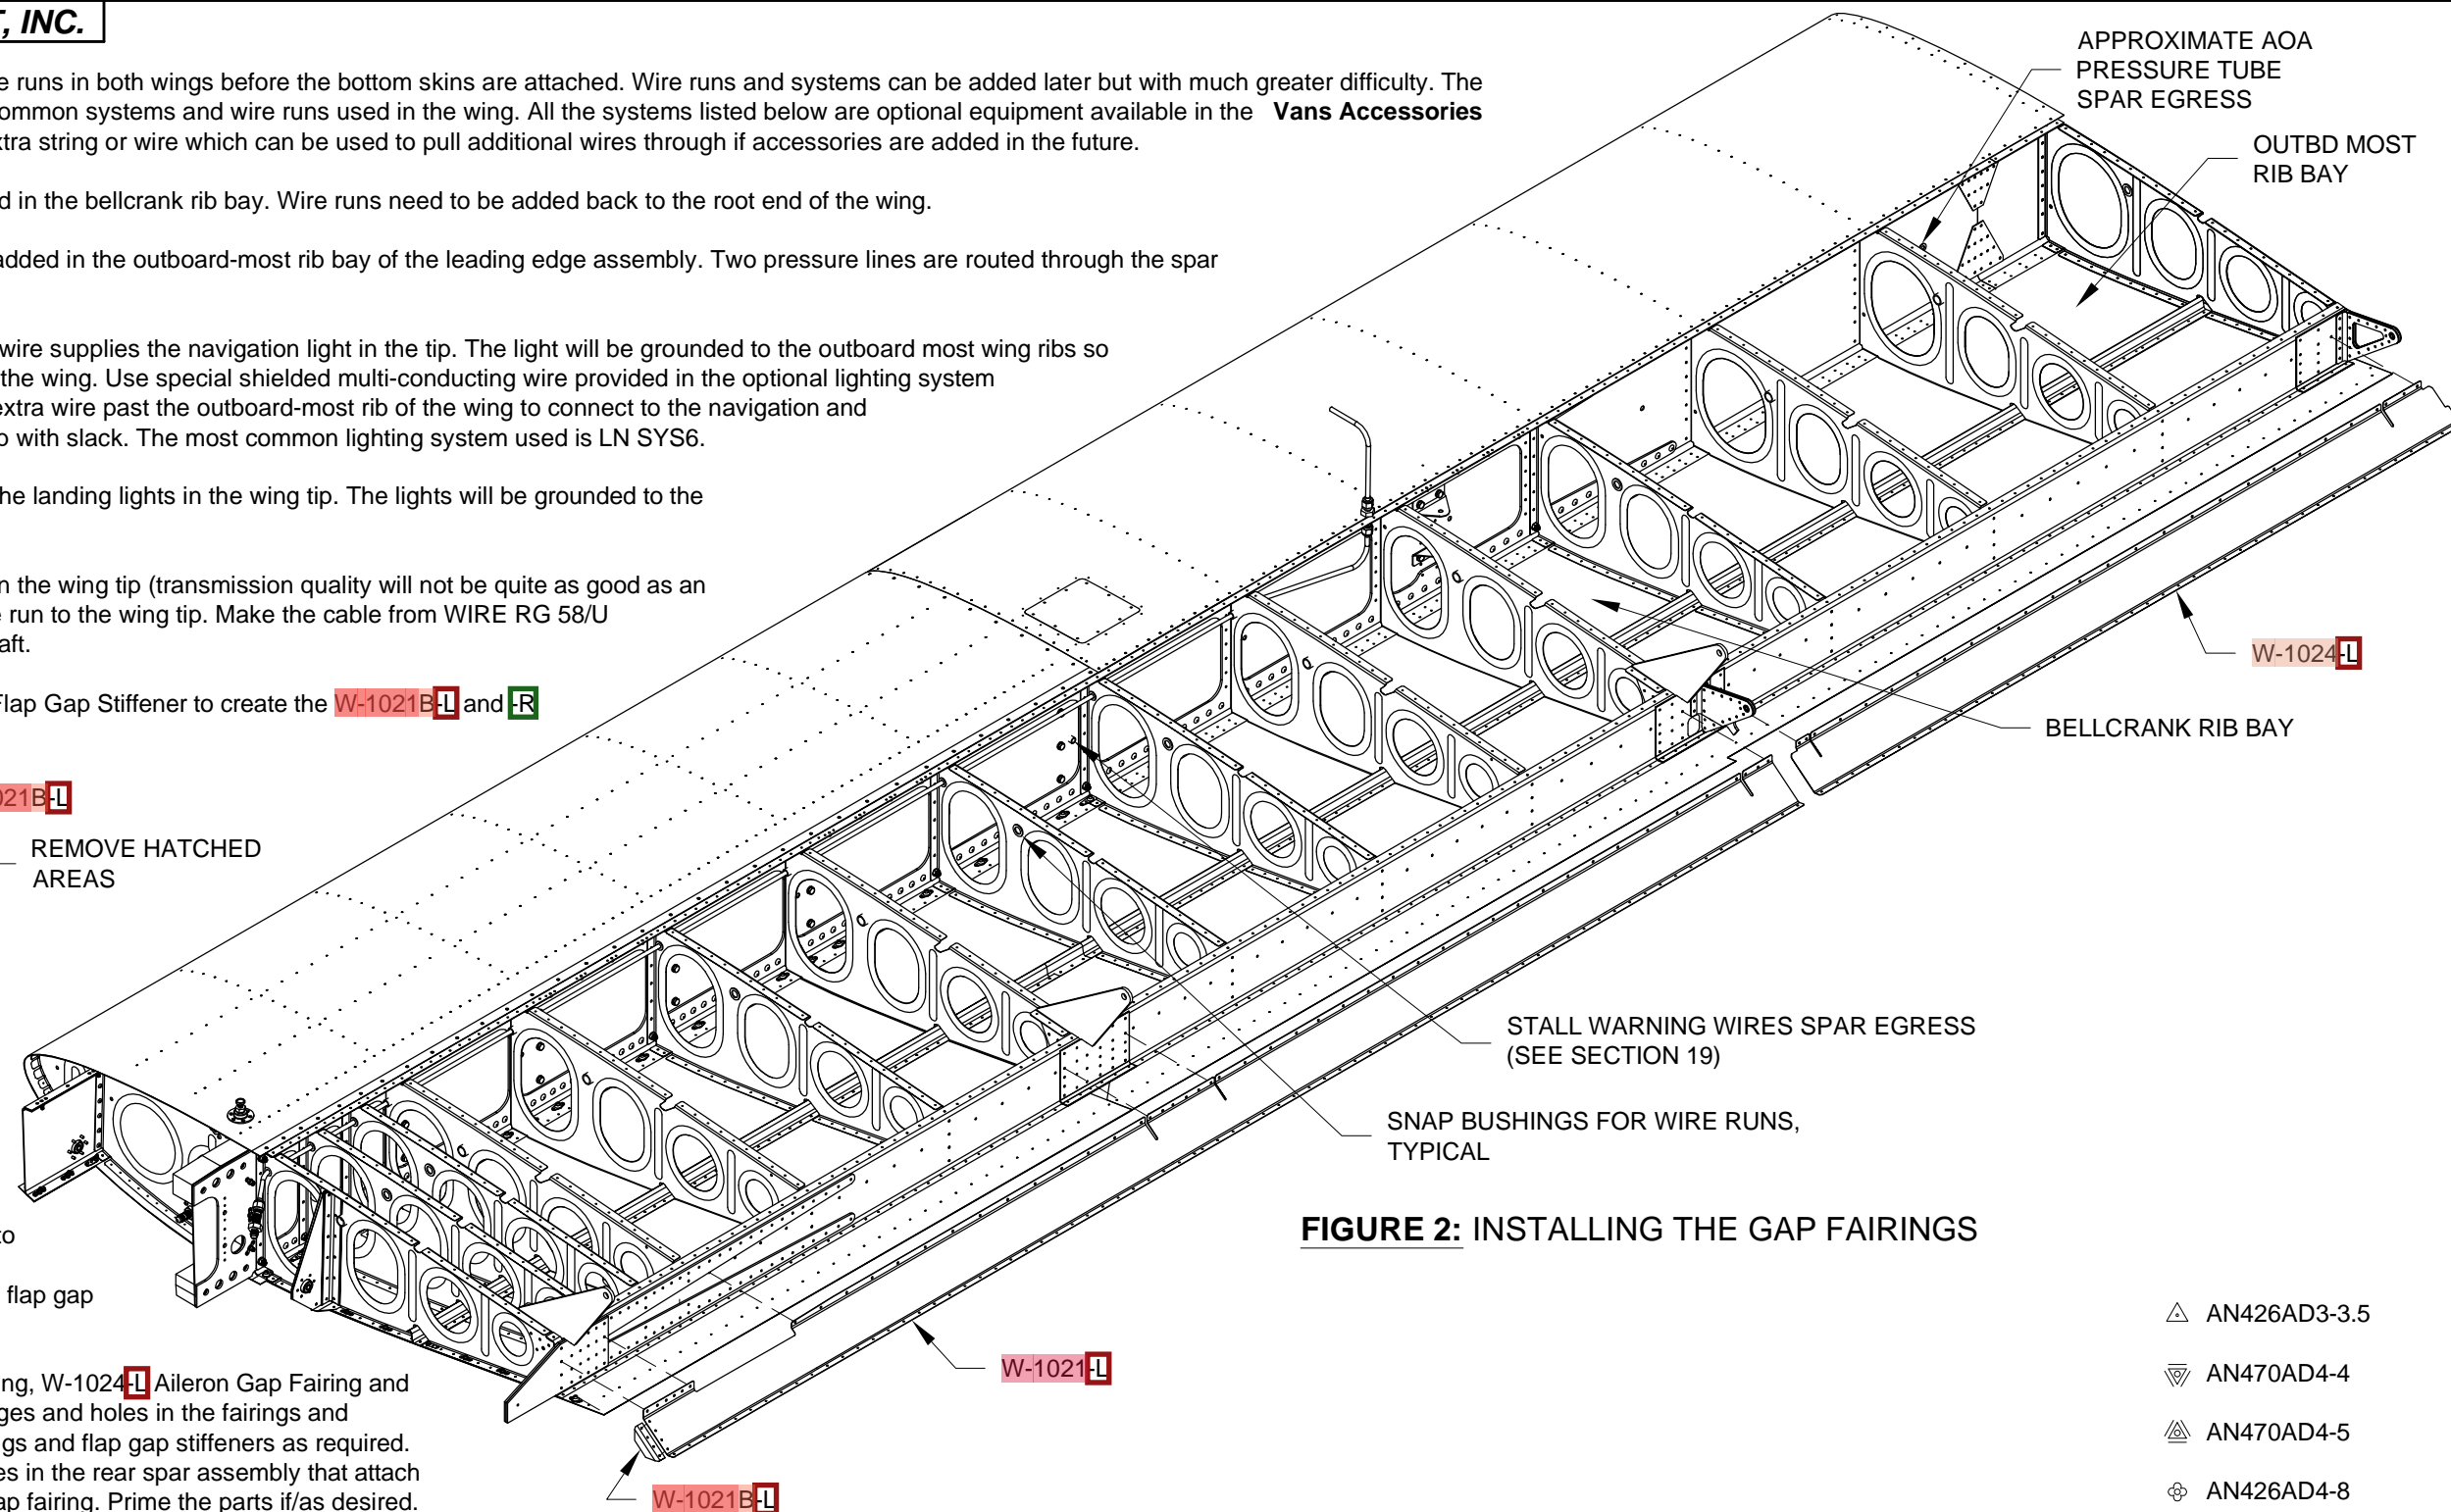

FIGURE 2: INSTALLING THE GAP FAIRINGS
Step 5: Cleco then rivet the **W-1021B-L** Flap Gap Stiffener to the **W-1021-L** Flap Gap Fairing as shown in Figure 2 and per the callouts in Figure 4.